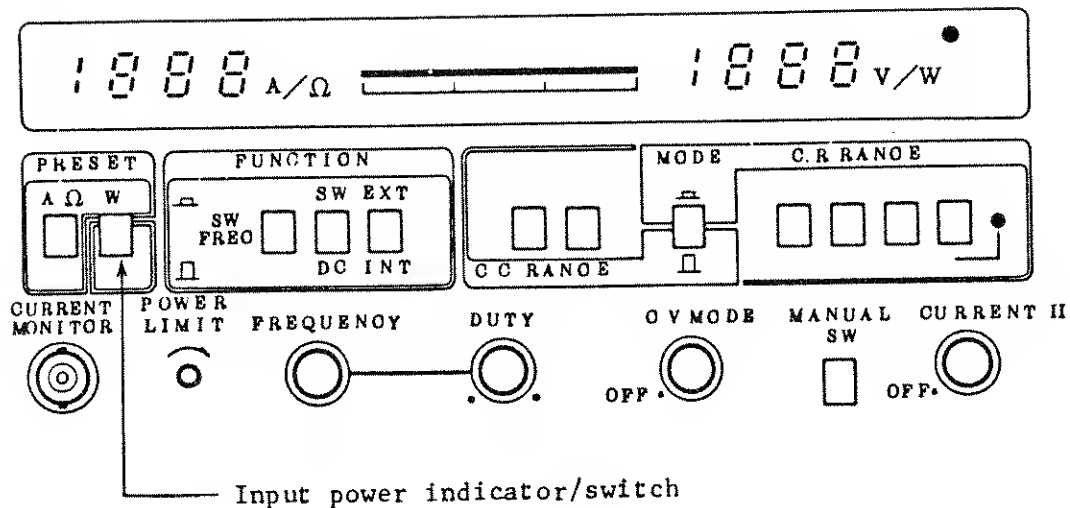

Figure 2-10-1
1. Loading power to the electronic load is indicated on the power indicator. But the value also may be indicated in digital figures with the precision of $\pm 3\%$ F.S + 1 digit. The loading power indicator/switch in Fig. 2-10-1 is commonly used for presetting the power limit.